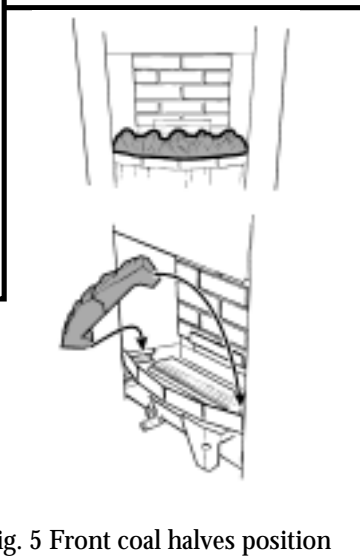

Fig. 5 Front coal halves position
2. Place the two halves of the front base coal in the burner compartment so that they rest on the ledges at the sides and front. Pull the coals forward so that they are immediately behind the front rim of the burner compartment (See figure 5).